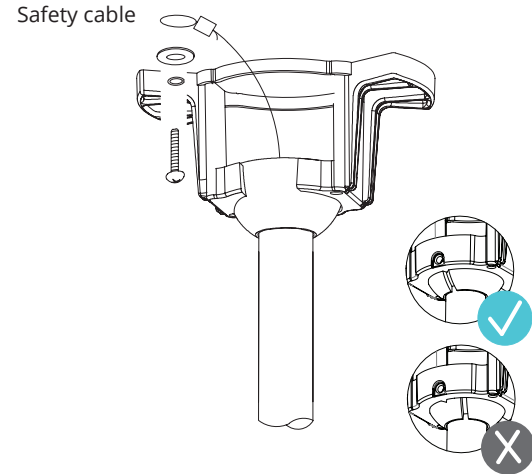

FIGURE 9
1. Carefully lift the fan motor assembly up to the mounting bracket and seat the hanger ball in the mounting bracket socket. Make sure the tab on the mounting bracket socket is properly seated in the groove in the hanger ball (Fig. 9). Rotate the socket assembly until the ball drops and locks into the hanger bracket screw.
Make sure the tab on the mounting bracket socket is properly seated in the groove in the hanger ball (Fig. 9). Rotate the socket assembly until the ball drops and locks into the hanger bracket screw.
2. Secure the safety cable to the building structure using spring washer, flat washer, and wood screw provided (Fig. 9).